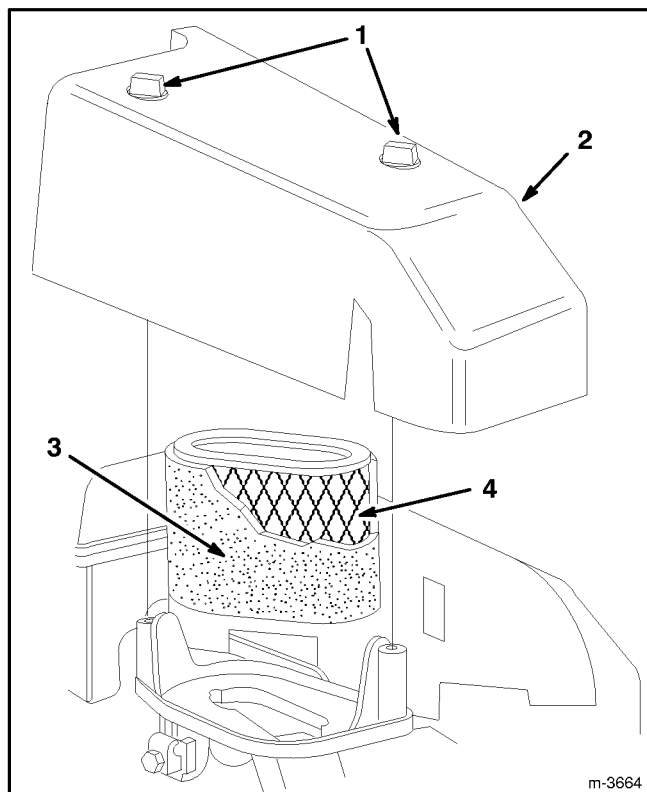

Figure 17
2. Remove two (2) knobs securing air cleaner cover to engine (Fig. 17).